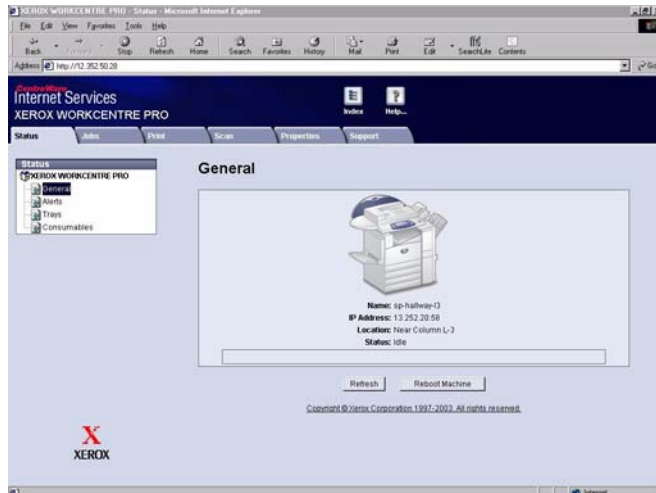

Figure 1 Customers Printer
6. In the Address window of the browser, enter **http://** followed by the IP address, similar to this example: **http://17.252.20.98**. Press Return to find the customers printer (Figure 1).